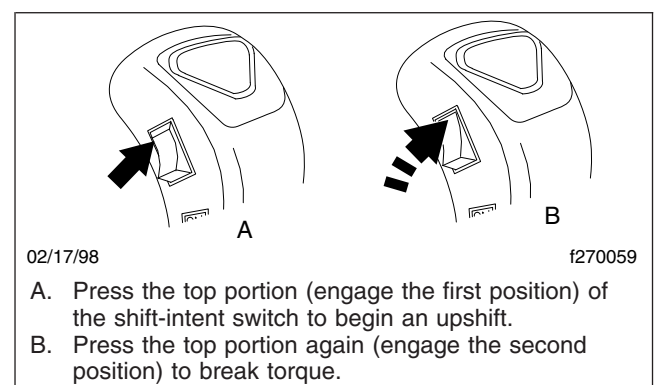
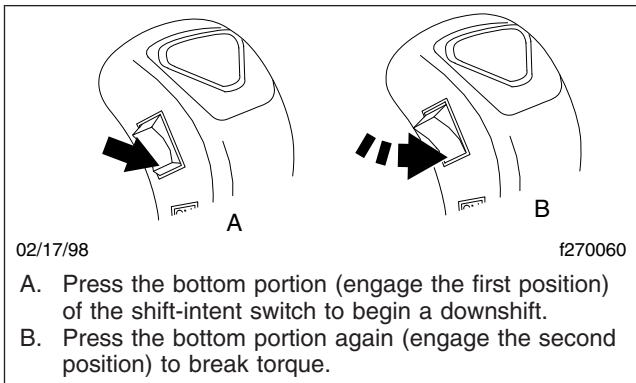

Fig. 8.19, ESS Upshifting Using the Shift-Intent Switch
Fig. 8.20, ESS Downshifting Using the Shift-Intent Switch
NOTE: If the system switch is OFF, use the shift-intent switch to select between ranges. Push the top of the switch (**Fig. 8.19**) to select the HI range on upshifts and the bottom of the switch (**Fig. 8.20**) to select the LO range on downshifts.
- 1.3 Press the top portion of the shift-intent switch again, far enough so that the switch goes into a second position inside the body of the shift handle. Then release the switch. See **Fig. 8.19**. This will break torque.
- 1.3 Press the bottom portion of the shift-intent switch again, far enough so that the switch goes into a second position inside the body of the shift knob. Then release the switch. See Fig. 8.20. This will break torque.